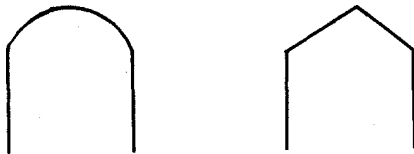

Figure 14
3. Installing the Thermal Paper (See fig. 14)
a. Slide back and remove the Thermal Paper Cover (3) from the printer section. (see Fig. 14)